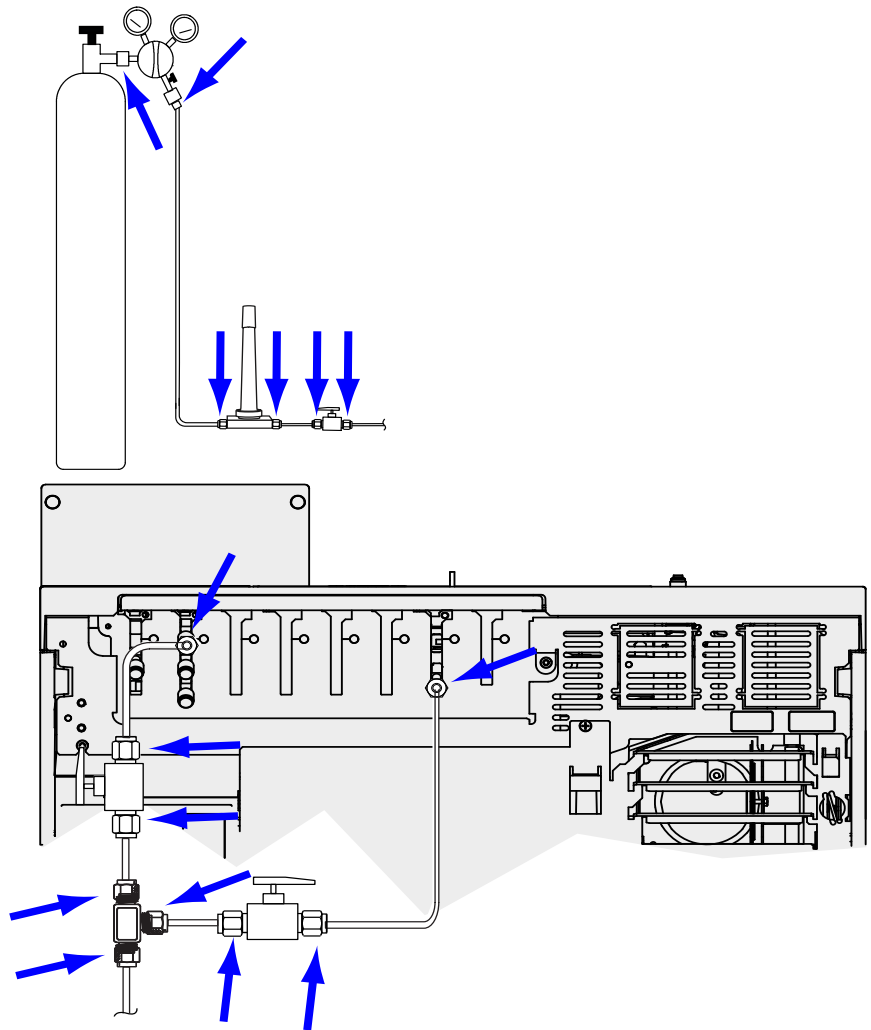

Figure 11. Locations to check for leaks
- 4 Wait 10 min. If there is a pressure loss greater than 7 kPa (1 psi), there is a leak in the external connections. Use the leak detector to check each fitting for leaks. See **Figure 11**.